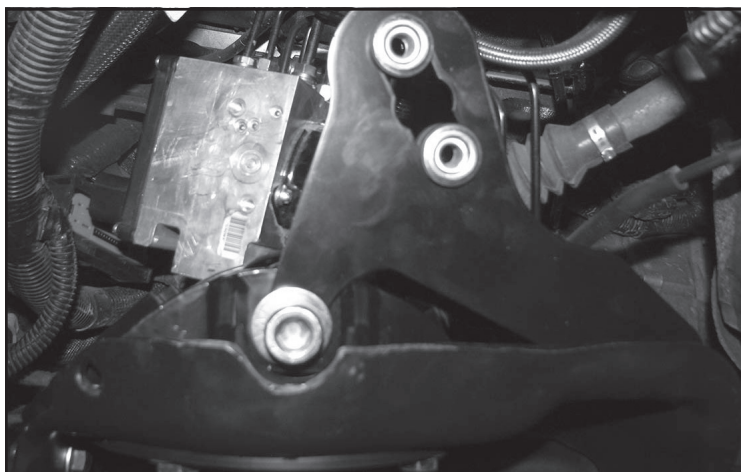

FIGURE 32 - STEP 19
19. Locate and install the misalignments into the top of the coilover. Install the FT44311BK (upper coilover mount driver) and FT44314 (ABS Bracket) to the Fabtech coilover using the supplied 5/8" x 4" button head bolt and hardware. **LEAVE LOOSE. NOTE: The resi hose needs to be oriented towards the rear of the vehicle. SEE FIGURE 32**